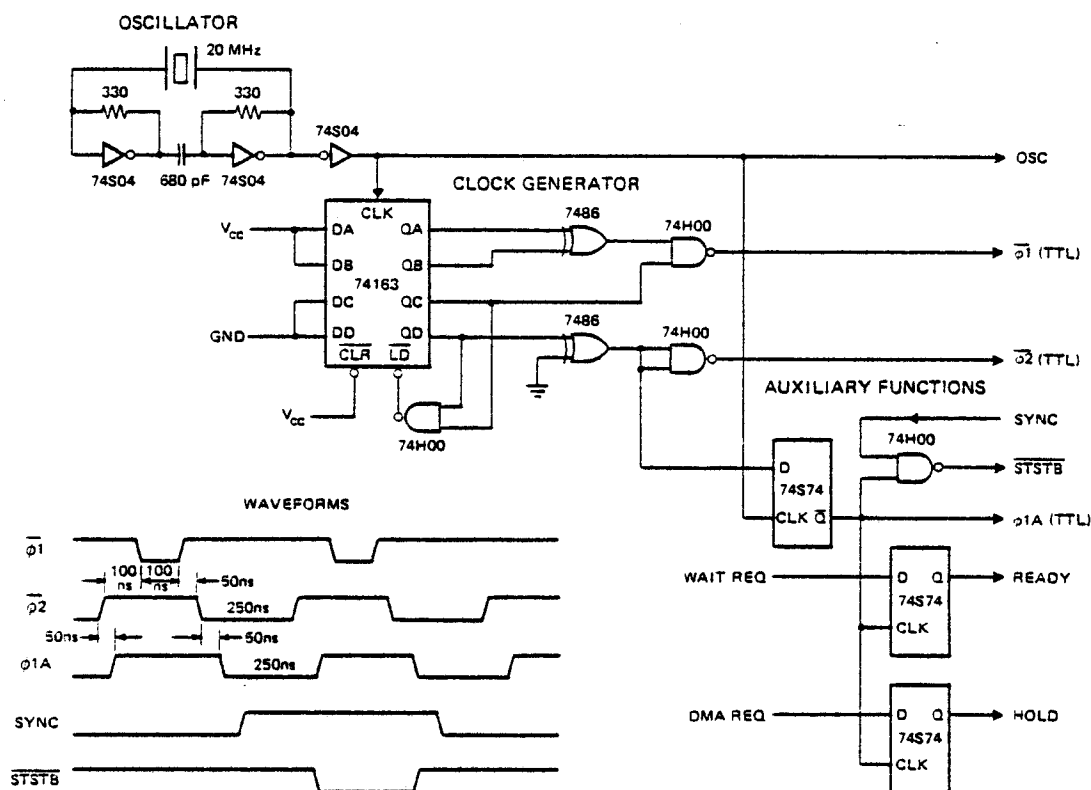

Figure 3-3. 8080 Clock Generator
The oscillator provides a 20 MHz signal to the input of a four (4) bit, presetable, synchronous, binary counter. By presetting the counter as shown in figure 3-3 and clocking it with the 20 MHz signal, a simple decoding of the counters outputs using standard TTL gates, provides proper timing for the two (2) 8080 clock inputs.
The Clock Generator diagram also shows how to generate an advanced timing signal ($\phi 1A$) that is handy to use in clocking "D" type flipflops to synchronize external requests. It can also be used to generate a strobe (\overline{STSTB}) that is the latching signal for the status information which is available on the Data Bus at the beginning of each machine cycle. A simple gating of the SYNC signal from the 8080 and the advanced ($\phi 1A$) will do the job. See Figure 3-3.